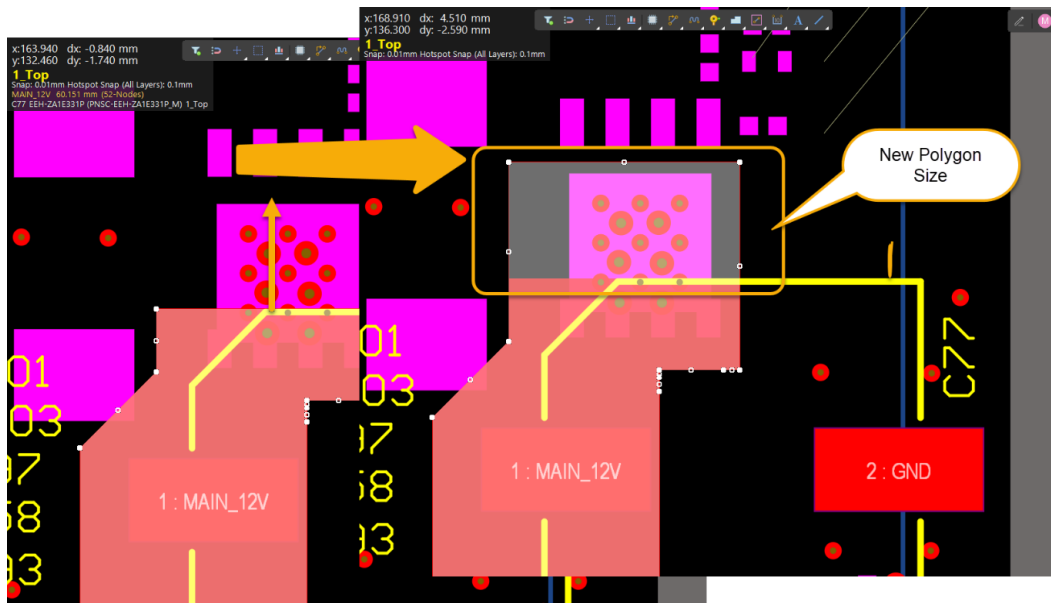

Figure 11. New Polygon size
- b) Select the upper edge of the Polygon and change its position in a way that the polygon pour overlaps the Vias in the copper area around Q20, as seen in Figure 11.